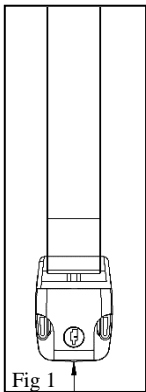

Fig 1
1. Place your spa cover in its proper position on the spa shown in Figure 1.
2. Each strap is supplied with a cabinet latch snapped in place. Leave the cabinet latches at the end of the straps, but remove the bag containing the screws and while lightly pulling downward on a strap, mark the center bottom of the latch (fig 1). A piece of tape may be a good method to do this. Mark each remaining strap in the same way.